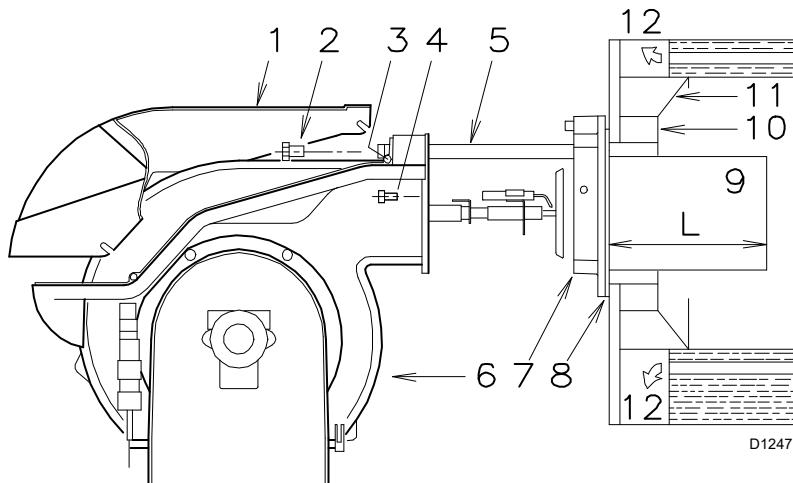

Fig. 7
For boilers having a water-cooled front the refractory fettling 10)-11)(Fig. 7) is not required unless it is expressly requested by the boiler manufacturer.
Secure flange 7)(Fig. 7) to the boiler plate interposing the supplied gasket 8)(Fig. 7). Use the 4 screws provided after having protected the thread with antiscruffing products.
- Retract the burner on its slide bars as shown in Fig. 7 pag. 10.